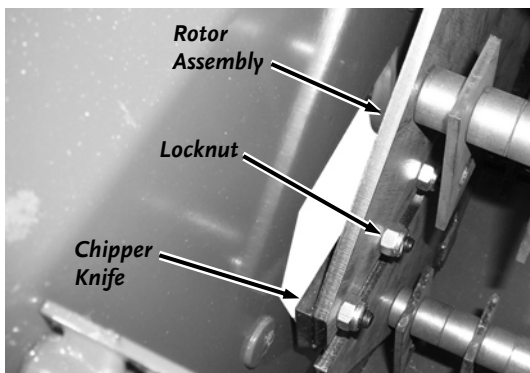

Figure 23
5. Insert a 3/16" Allen wrench into the head of a screw and a 1/2" Wrench on the Locknut on the inside (**Figure 23**) and remove the Locknut and Screw.